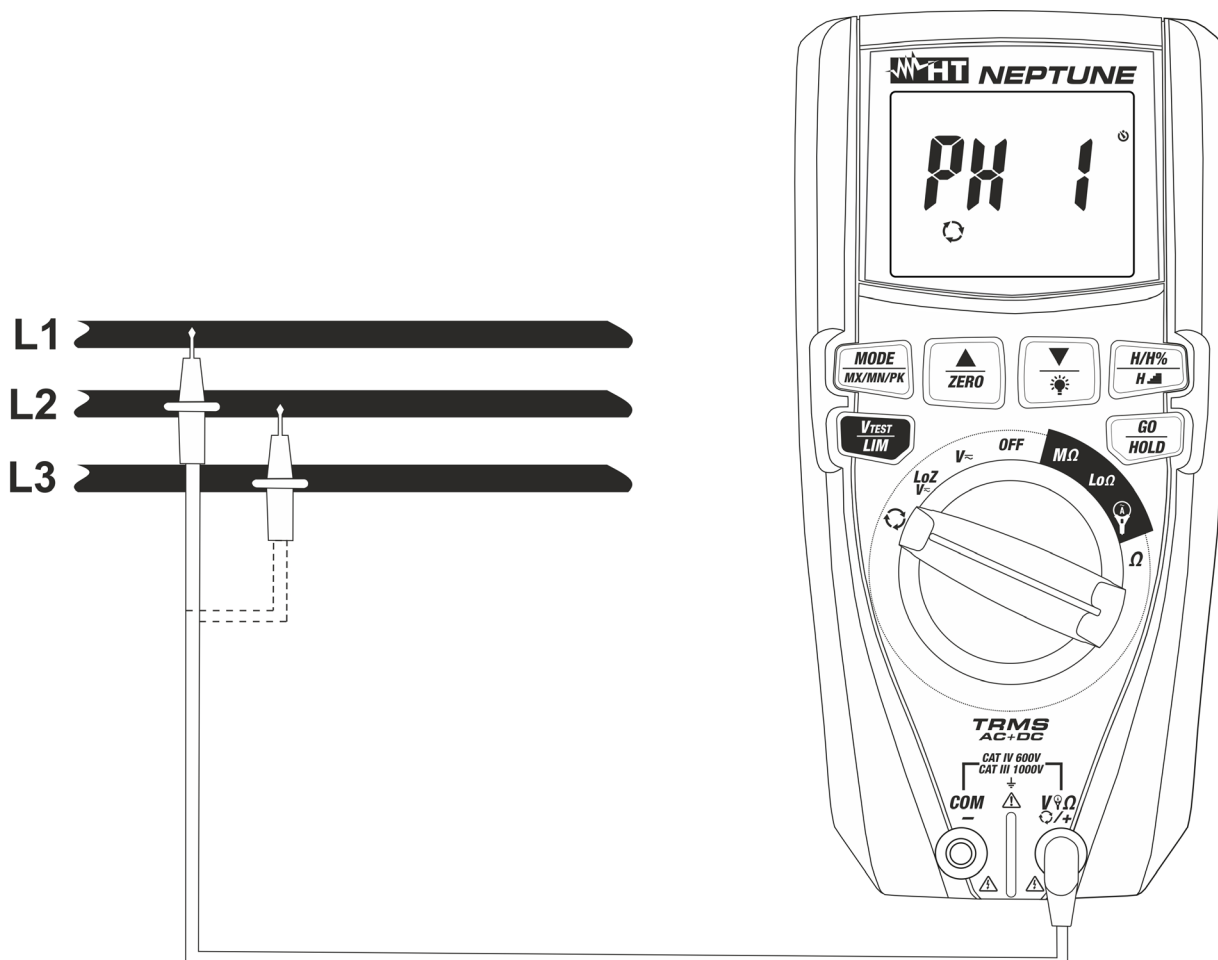
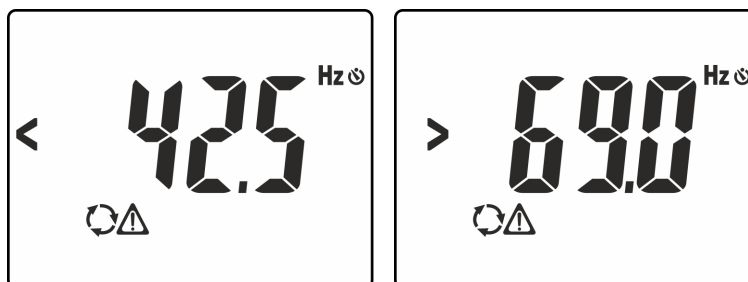
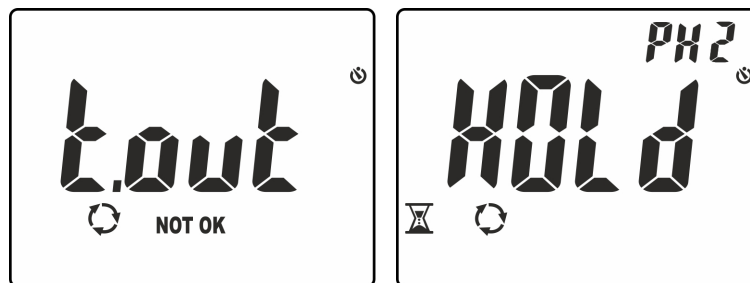

Fig. 10: Use of the instrument for phase sequence and phase concordance test
Fig. 11: Signal of voltage with wrong frequency
Fig. 13: Detecting phase L1 and waiting for phase L2
- Position the red lead onto phase **L1** of the three-phase system to be tested (see Fig. 10). The following messages may appear on the display (see Fig. 11) to identify the presence of a voltage signal with frequency out of range **42.5Hz ÷ 69Hz**. In these conditions, the instrument does not perform the test.
6. Position the red lead onto phase **L2** of the three-phase system to be tested (see Fig. 10). In case passage between phase L1 and phase L2 takes more than **10s**, the instrument shows message “**t.out**” on the display (see Fig. 13 – left side). In conditions of correct voltage and frequency, the instrument shows message “**HOLD**”, symbols  and “PH2” and the buzzer sounds continuously, waiting for a stable voltage value on phase L2 to be detected (see Fig. 13 – right side).